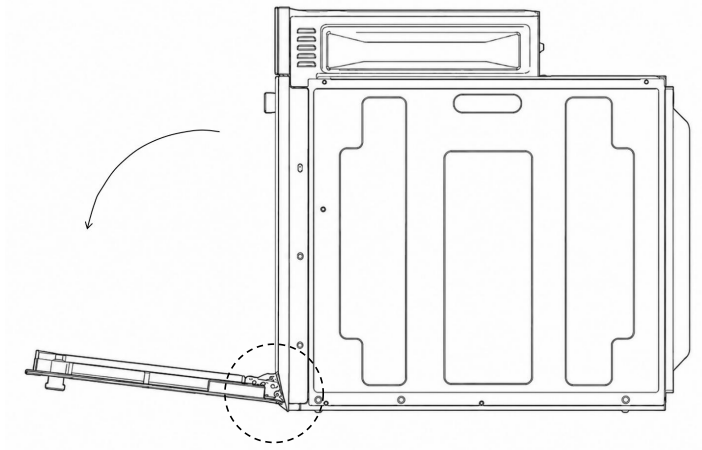

Figure 1
1. Open the door fully (Fig. 1)